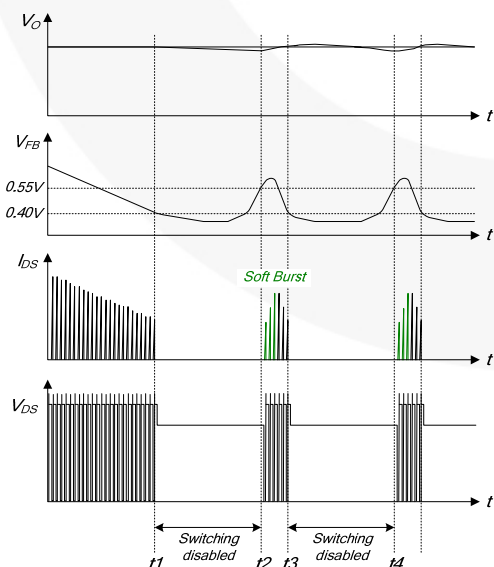

Figure 22. Burst-Mode Operation
**5. Soft Burst-Mode Operation:** To minimize power dissipation in Standby Mode, the FSL126MRT enters Burst-Mode operation. As the load decreases, the feedback voltage decreases. The device automatically enters Burst Mode when the feedback voltage drops below  $V_{BURL}$  (400mV), as shown in Figure 22. At this point, switching stops and the output voltages start to drop at a rate dependent on standby current load. This causes the feedback voltage to rise. Once it passes  $V_{BURH}$  (550mV), switching resumes. The feedback voltage then falls and the process repeats. Burst Mode alternately enables and disables switching of the SenseFET, reducing switching loss in Standby Mode.